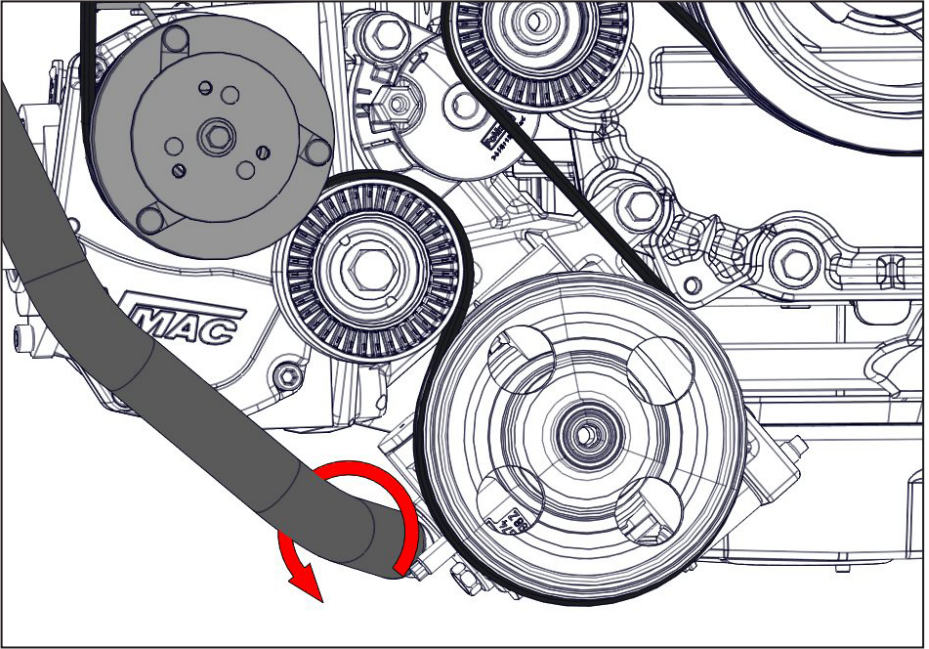

Figure 83 — Rotate power steering hose
- Route the power steering feed hose along the best path from the reservoir to the pump. The hose can be rotated to ensure it will not contact the compressor clutch, the A/C clutch or any other hot, sharp or moving components (Figure 83).